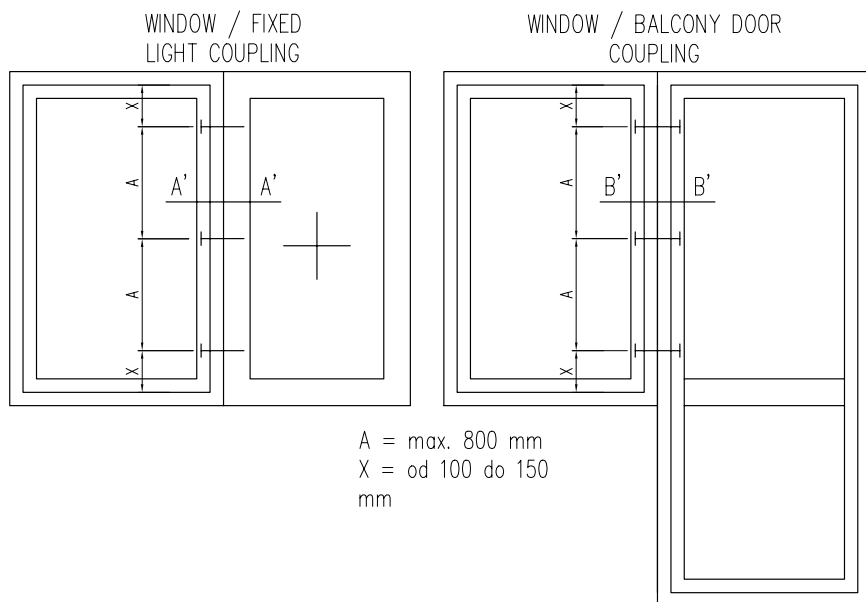
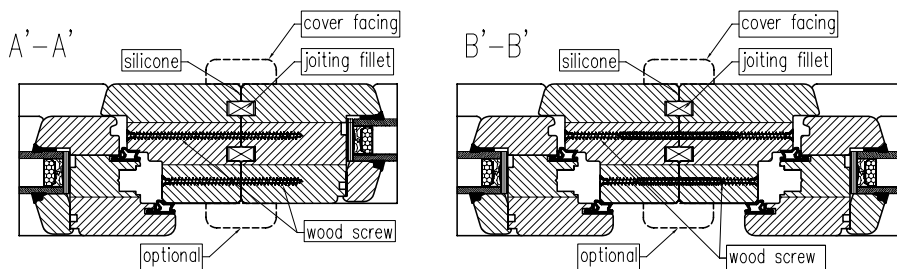

Fig. 11. Diagram of Window and Door Connections in Sets
Fig. 12. Recommended Example Connections of Windows and Doors
18. Window and door combinations may be assembled using a so-called "loose tongue" inserted into the grooves of the frame uprights along the full height, sealed with silicone, and joined with screws spaced no more than 800 mm apart (see diagrams in Fig. 11, p. 12 and cross-sections in Fig. 12, p. 12).